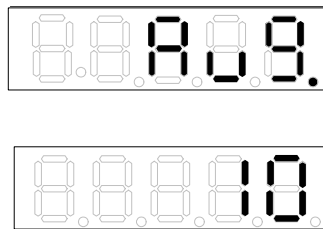

Figure 4-18 Setting Avg and the average number
3. In AC voltage parameter display a blinking pattern will appear. Use **↑**, **↓** to select Avg and press **Enter/Trig** to save the setting and go to average number setting display as Figure 4-18 shows.